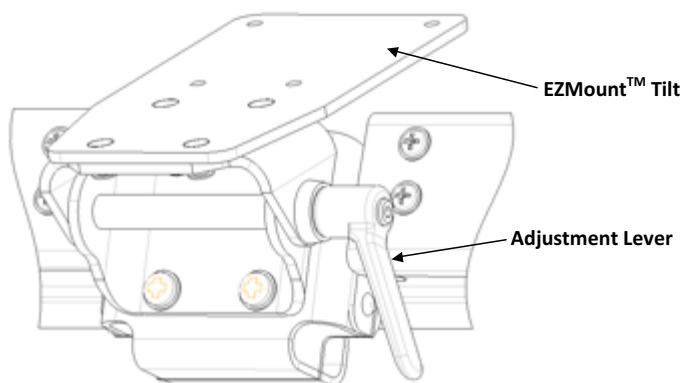

FIGURE 1:
- » The EZMount Tilt is attached to the mounting bracket (see Figure 1).